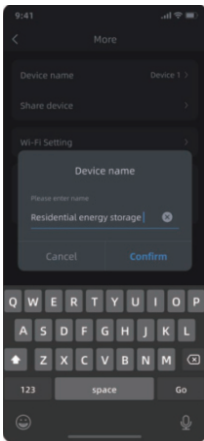

Figure 1
1)Figure 1: Display battery pack information in sequence from top to bottom: